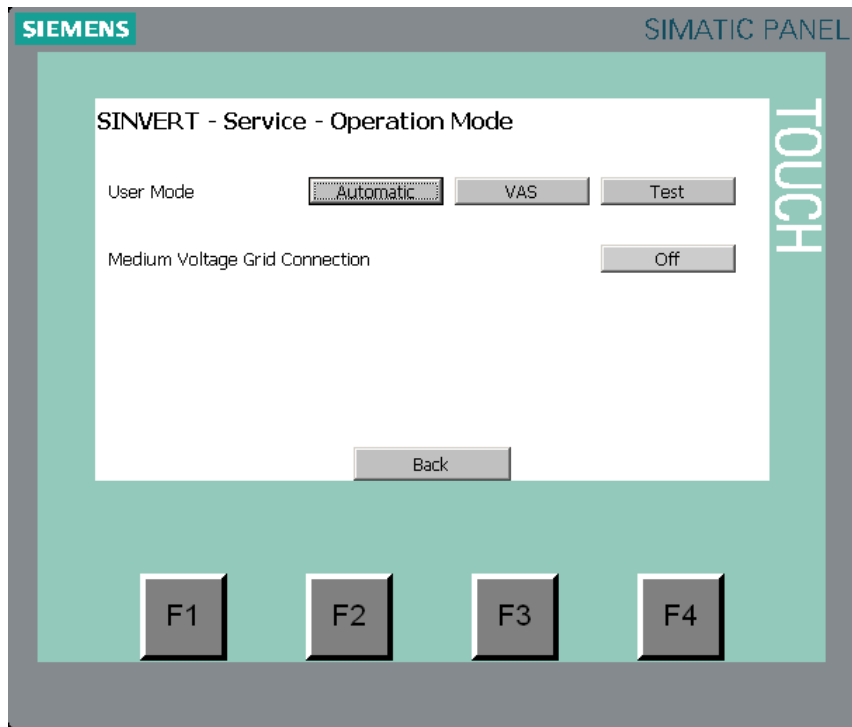

Figure 8-31 Operation mode
- control the operating state (see Figure 8-31 Operation mode) if a service technician wishes to switch the unit to test mode,